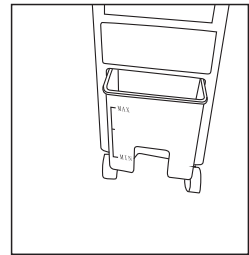

Fig. 3
- 1) Water level must be between the MIN and MAX line (as shown in fig3)